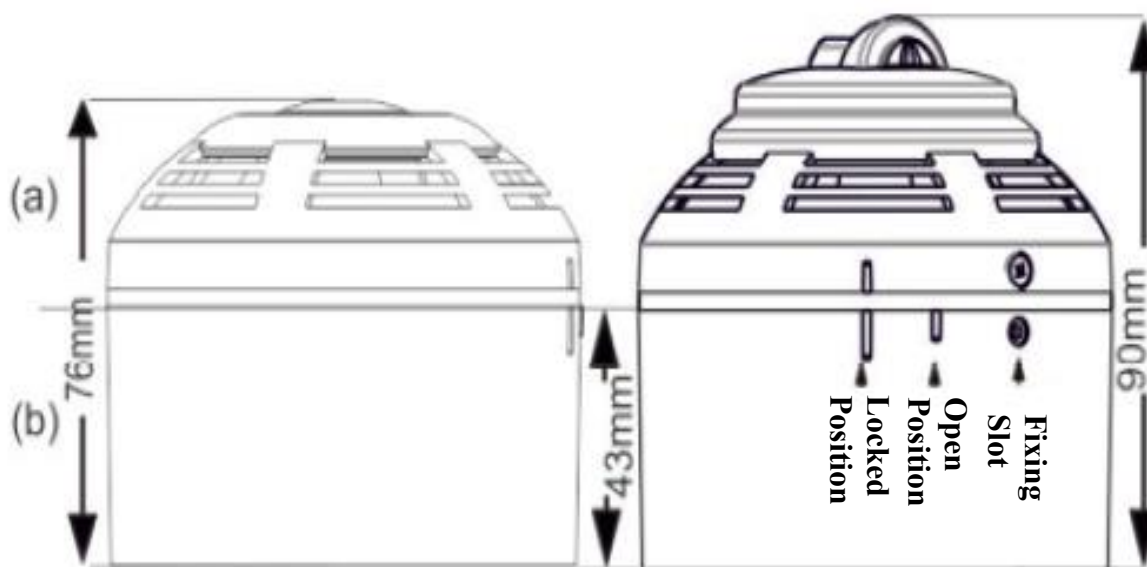

Figure 3
3. Make the connection in the upper case (Figure 3(a)) in accordance with the terminal connection.
4. Insert the Upper case (Fig. 3(a)) into the Lower case (Fig. 3(b)) with the notches shown in the figure.